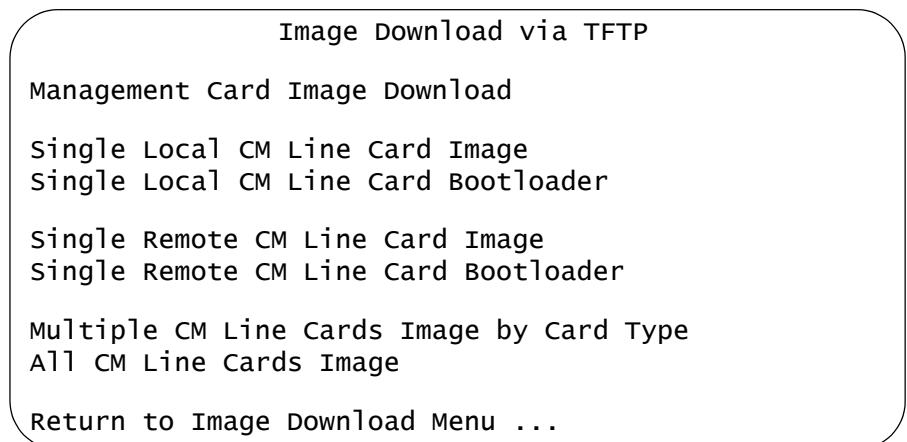

Figure 140. Image Download via TFTP Menu
2. Select **Image Download via TFTP**. This displays the menu in Figure 140.
2. Select **Image Download via XMODEM** to display the menu in Figure 140.